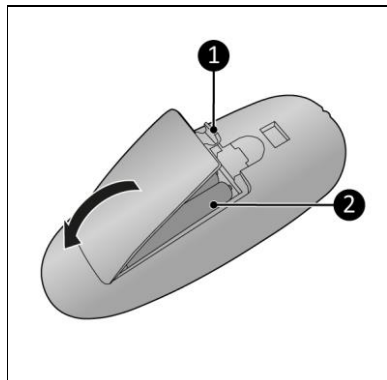

Figure 9
1. Pull the lip (Figure 9, pos. 1) and remove the cover (Figure 9).
3. Insert two batteries (AAA 1.5 V) as indicated in the battery compartment. Make sure to insert the batteries correctly (Figure 9, pos. 2).